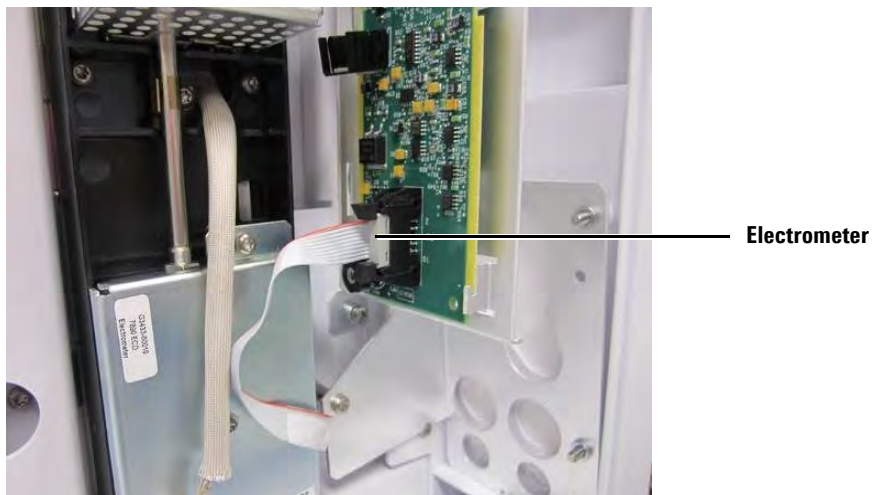

Figure 21 Plug the electrometer ribbon into the μ ECD logic PCA
- 5 Plug the electrometer from the μ ECD onto the μ ECD Logic PCA as shown in Figure 21.